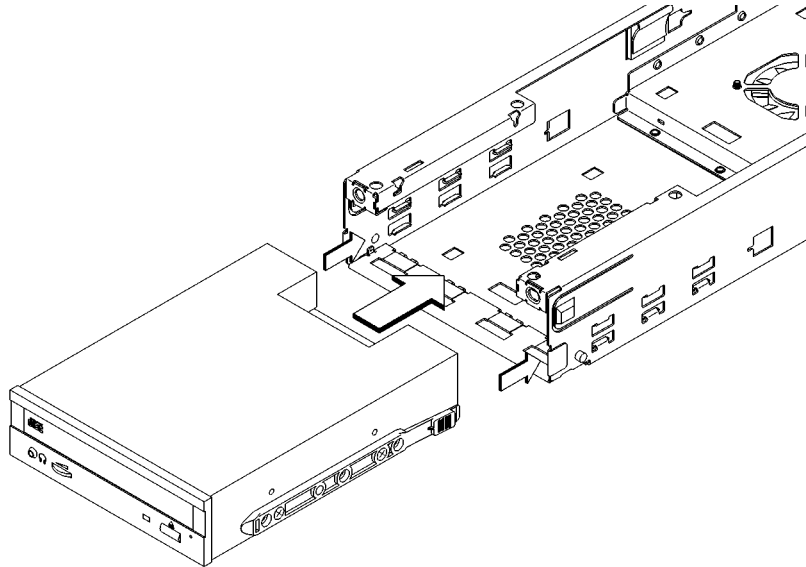

Figure 29
- 2 From the front of the storage tray, line up the slides on the CD-ROM or DDS tape drive with the slots in the storage tray, and slide it into place, as shown in Figure 29.